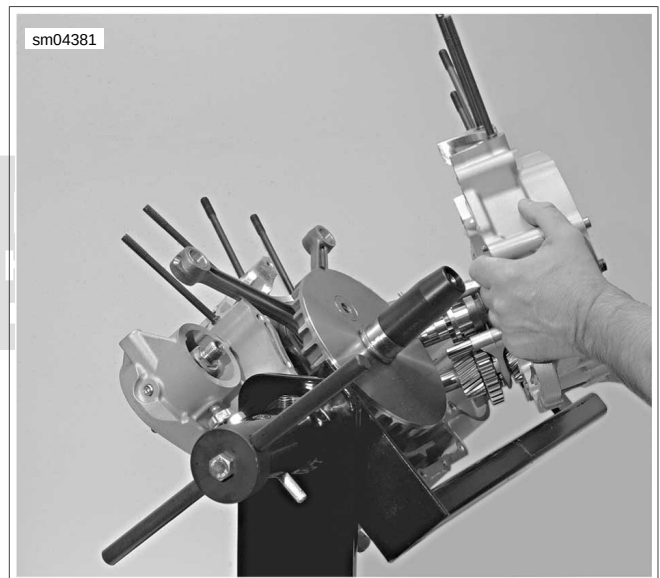

Figure 3-85. Assembling Crankcases with Crankshaft Guide Tool (Part No. HD-42326-B)
- d. See Figure 3-85. Carefully fit crankcases together.